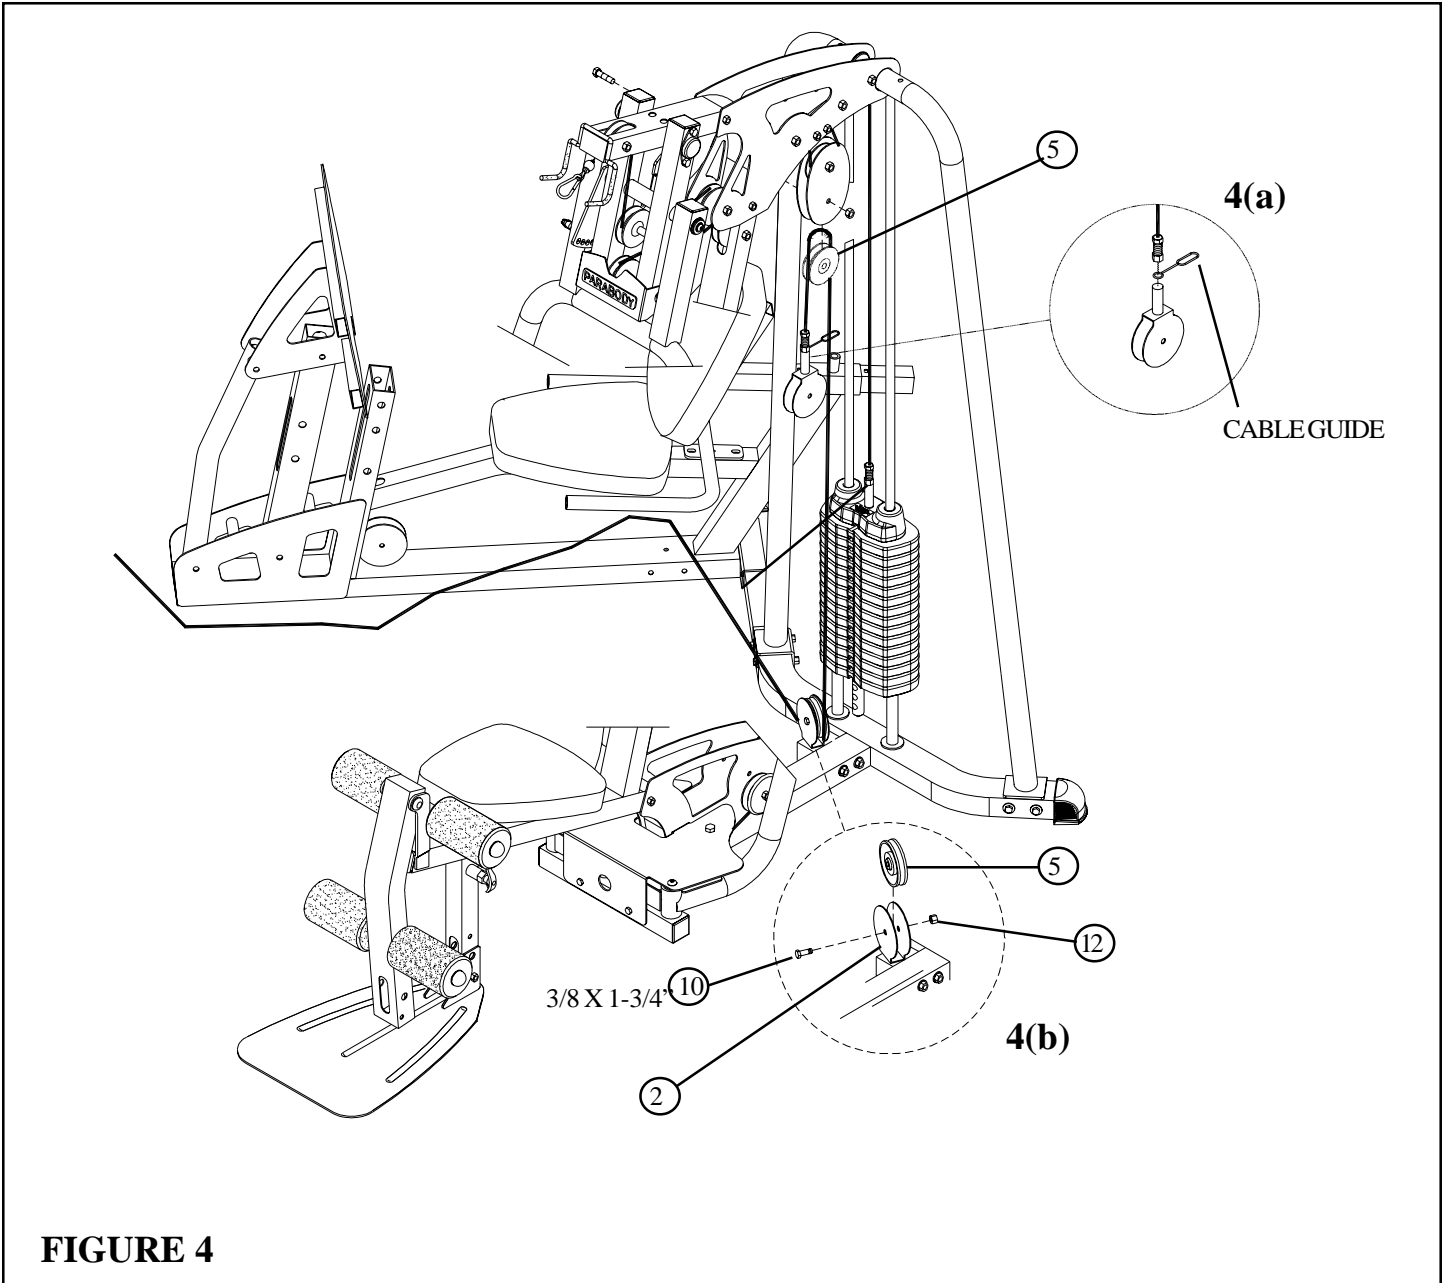

**FIGURE 3**
- Assemble the new LEG PRESS to the CONNECTING TUBE (1) using two 3/8 X 3-3/4" BOLTS (8), four 3/8" WASHERS (11) and two 3/8" LOCK NUTS (12) as shown in FIGURE 3